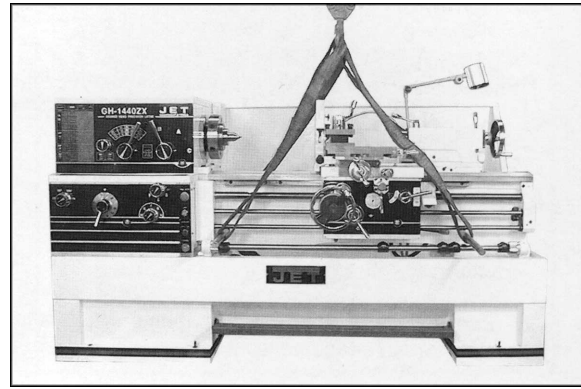

Figure 1
4. Sling the lathe as shown in Figure 1, using steel rods or pipes of sufficient strength inserted through the holes in the bed casting. **Do not lift lathe by the spindle.** With adequate lifting equipment, slowly raise the lathe off the shipping crate bottom. Make sure lathe is balanced before moving.